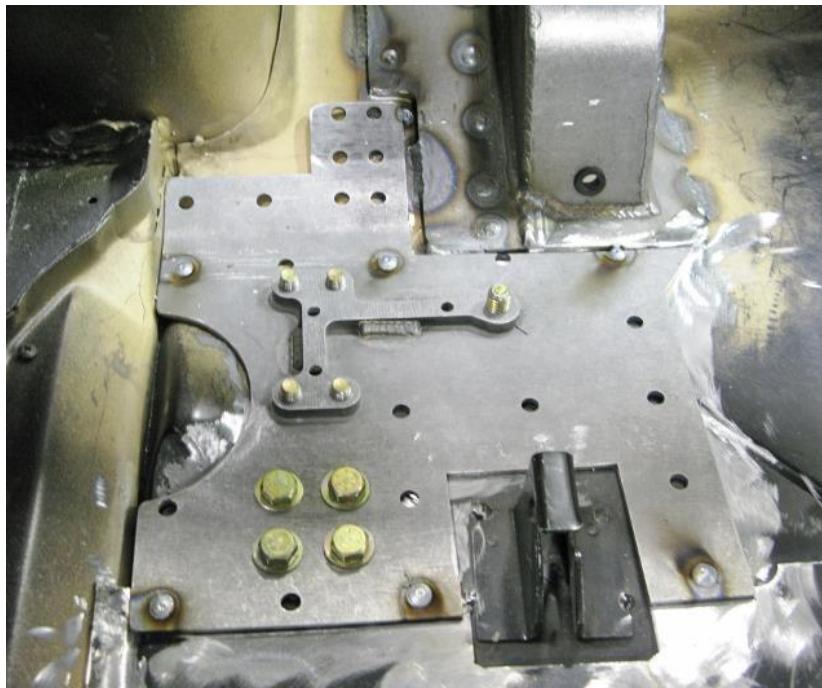

Figure 11 – Tack Weld Doubler Plate
26. Install the provided 3/8"-16 x 1"L hex head bolts and the 7/16"-14 x 4-1/4"L hex head bolts. Tack weld the doubler plate to the floor pan (Figure 11).